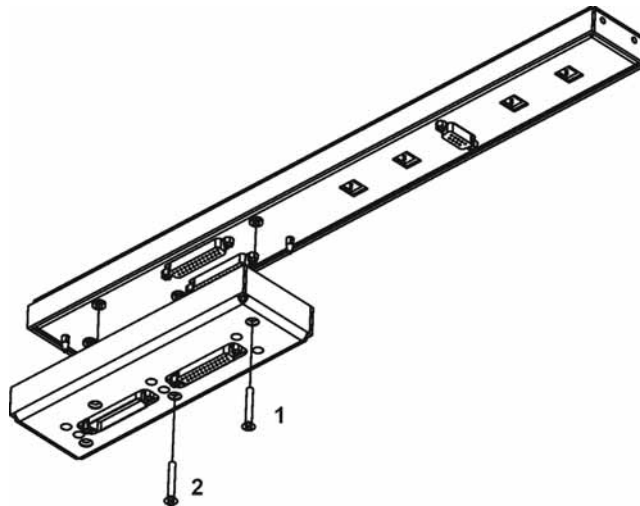

Figure 25 Mounting the screws [1]
5. Mount the four screws. The screws must be installed in the order shown in Figures 25 and 26.